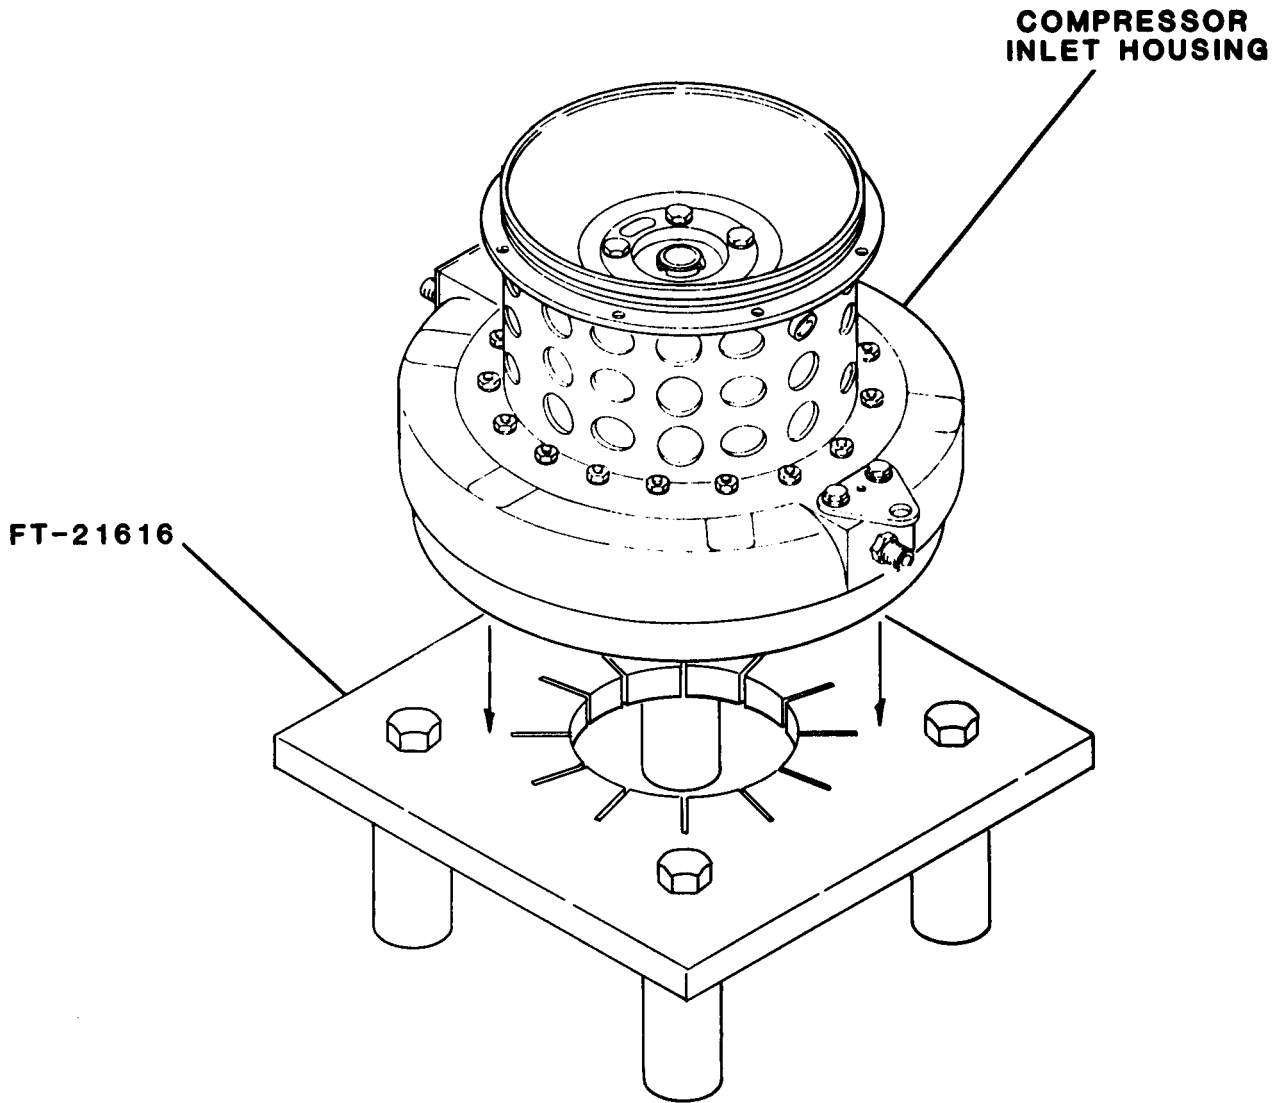

Figure 8-8. Using Turbine Wheel Assembly Fixture, Fabricated Tool FT-21616
(6) Place turbine assembly in fabricated tool (FT-21616, Figure 8-8). This will secure the turbine wheel (20, Figure 8-6) to prevent rotation.